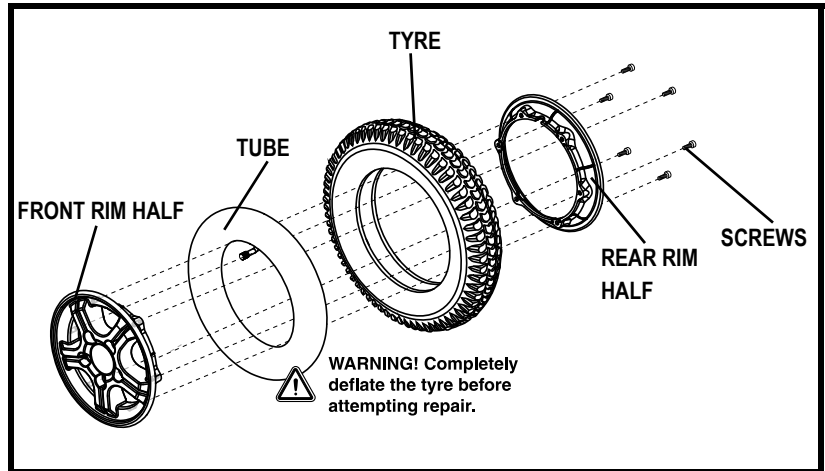

Figure 24. R44 Drive Wheel Disassembled
6. Remove the screws and separate the front and rear rim. See figure 24.
10. Reinstall the five (5) lug nuts onto the wheel hub and tighten.